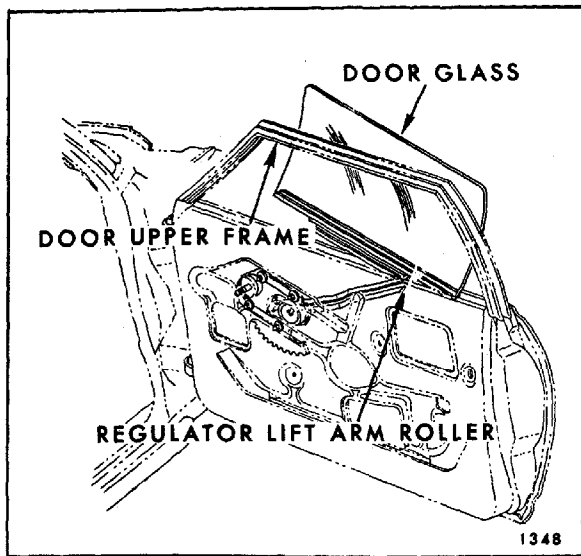
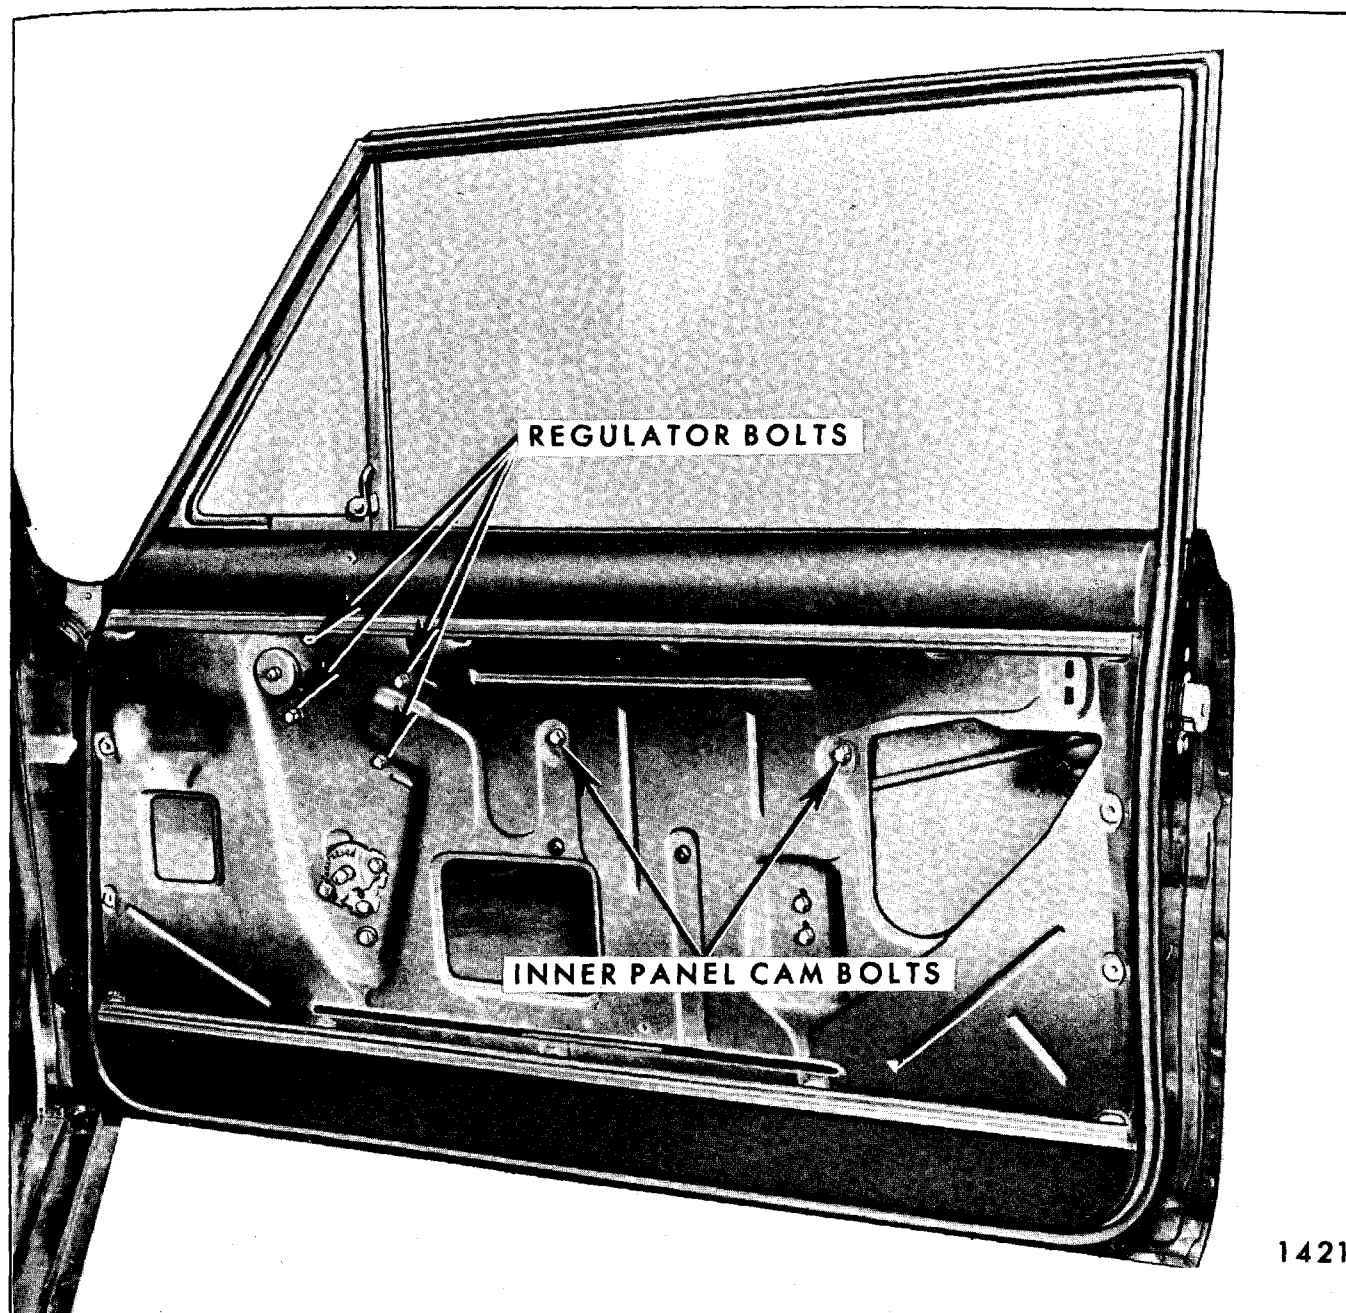

Fig. 7-74—Front Door Window Removal - "A" Styles
Fig. 7-75—Front Door Hardware - "X" Styles
5. Move door window forward to disengage regulator arm roller(s) from window lower sash channel cam and remove door glass outboard of door upper frame on "A" Body Styles and inboard of door upper frame on "X" Body Styles (see Fig. 7-74 for "A" Bodies and Fig. 7-75 for "X" Bodies).